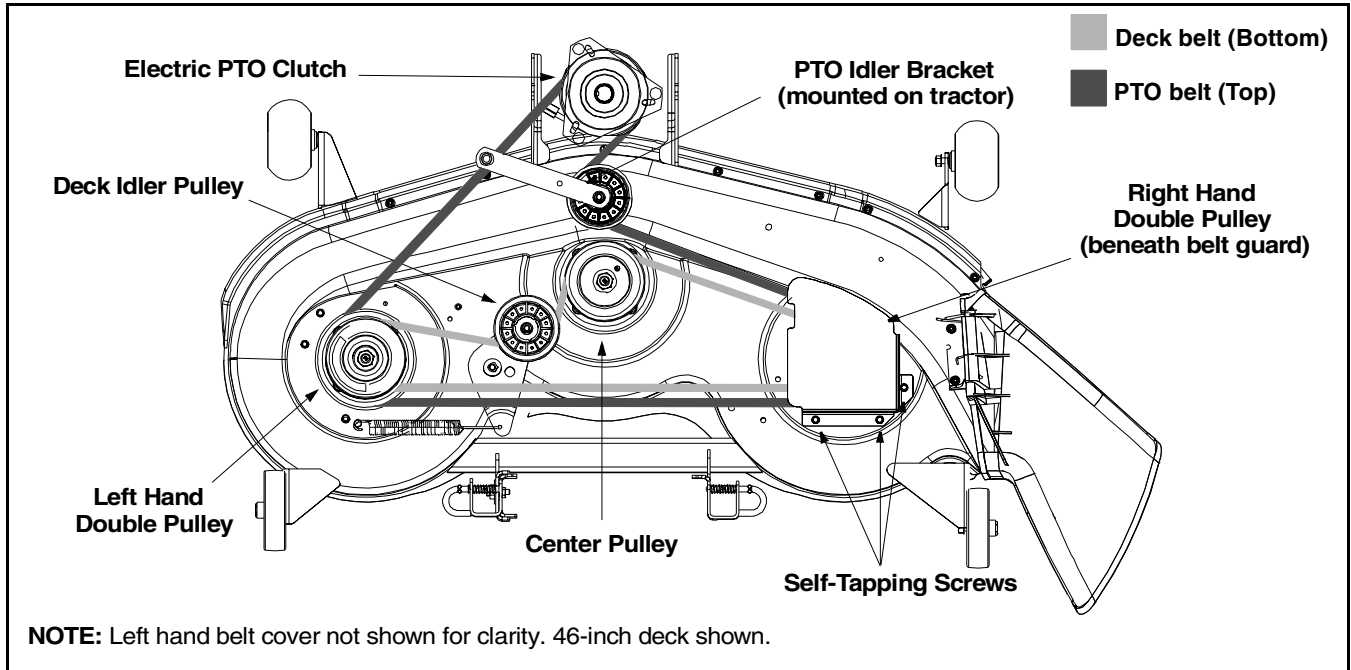
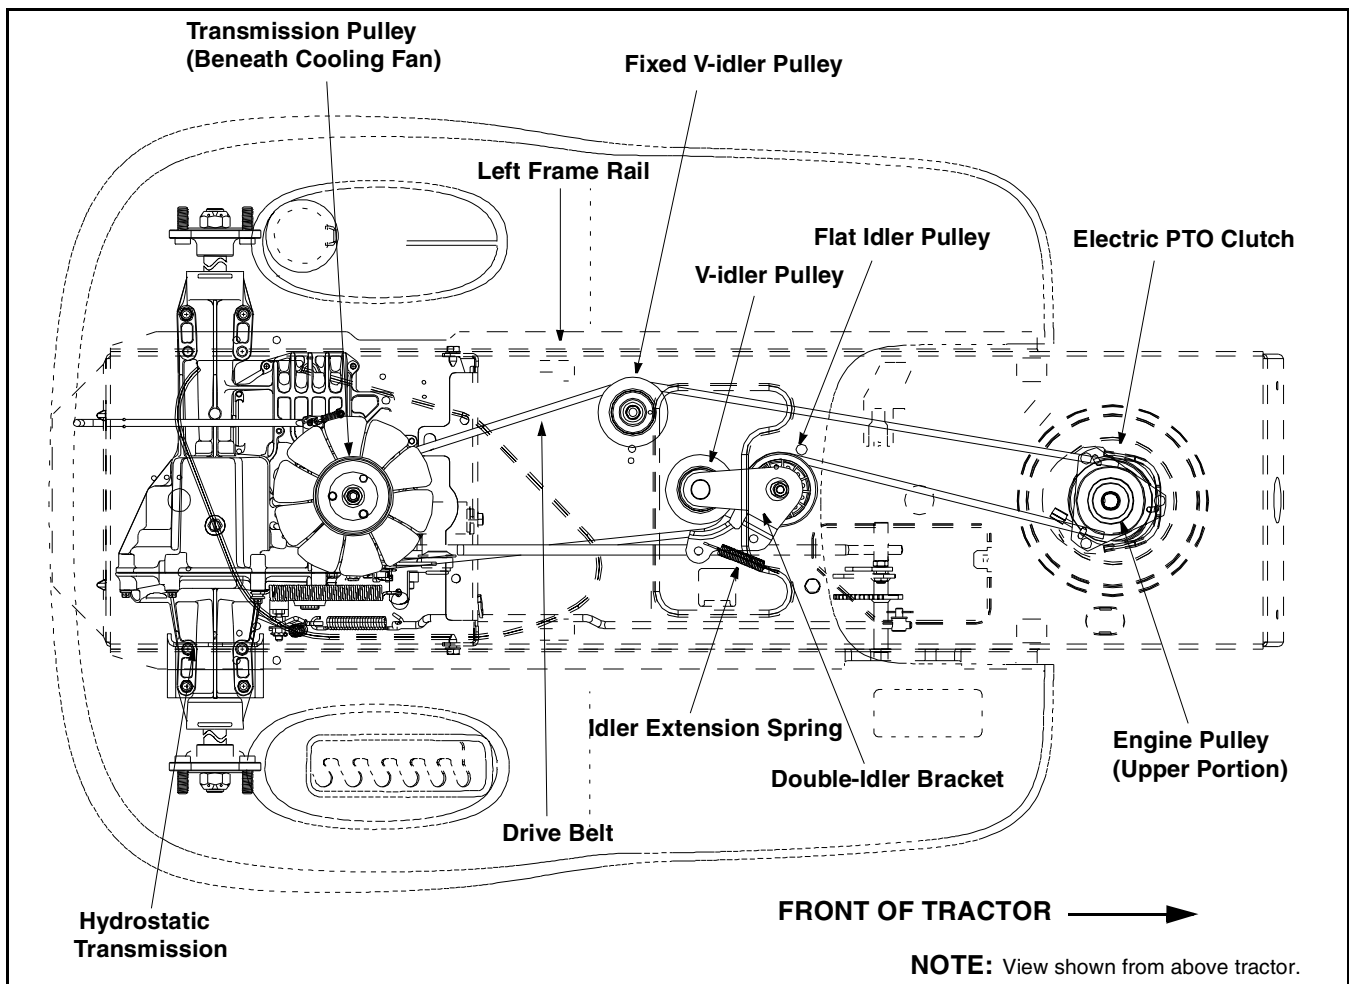

Figure 14
Figure 16
- Remove the PTO belt from around the electric PTO clutch. Refer to Figure 14.
- Route the new belts as shown in Figure 14 or Figure 16.
- Locate the fixed v-idler pulley found on the left underside of the frame. See Figure 16.
- Grasp the belt on both sides of the pulley and gently move it toward the left frame rail allowing it to unseat itself from the fixed v-idler. See Figure 16.
- Remove the hex bolt from the center of the electric PTO clutch and gently lower it off of the engine crankshaft. Be careful not to lose any washers or spacers which may be found on top of the engine pulley or the electric PTO clutch. See Figure 16.
- Remove the drive belt by feeding it from front to rear, toward the hydrostatic transmission. See Figure 16.
- Reroute the new belt around the pulleys and belt keepers, if present, EXACTLY as the old one was routed. Refer to Figure 16.